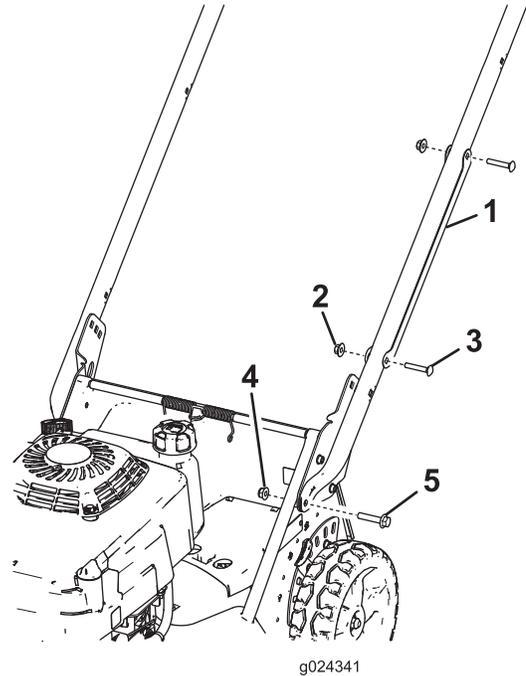

Figure 3
1. Remove the cable guard from the handle (Figure 3) by removing the 2 carriage bolts and 2 locknuts that hold the cable guard to the handle.
2. Install the handle ends onto the machine housing with 2 hex-head-flange bolts (5/16 x 1-1/2 inches) and 2 flange nuts (5/16 inch) as shown in Figure 3.
6. Position the cable guard onto the handle with the cable(s) inside the guard, and secure the guard to the handle with the 2 carriage bolts and the 2 locknuts that you previously removed (Figure 3).